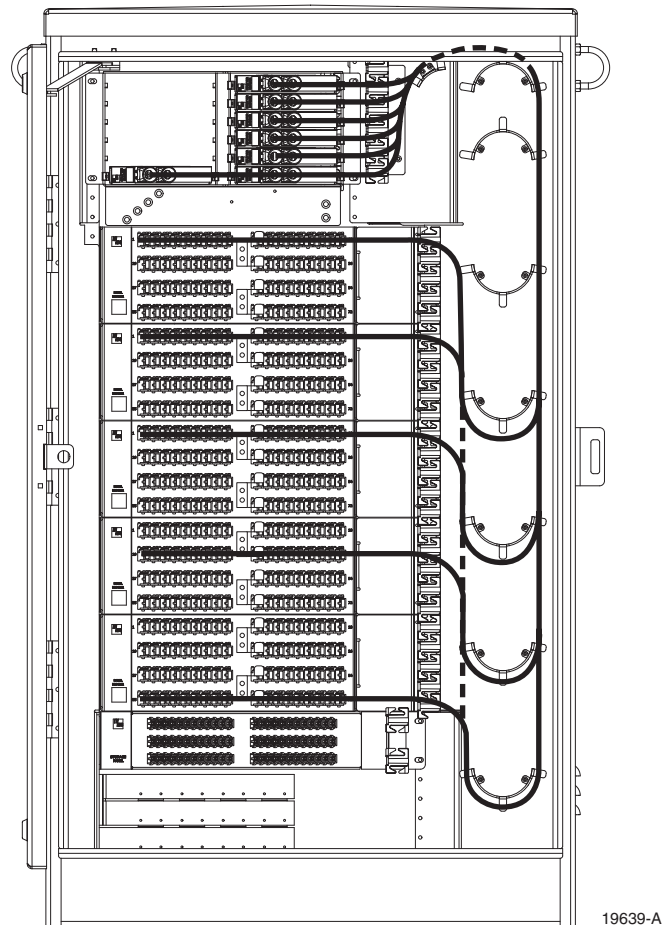

Figure 38. Routing To Connector Panels
6. Use the slack storage spools on the right side of the cabinet to store any excess fiber slack as shown in Figure 38.